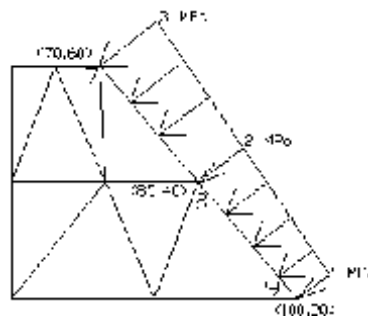

Fig. 5
5. A Two dimensional plate is shown in the Fig. 5. Determine the equivalent point loads at nodes 7,8,9 for the linearly distributed pressure load acting on the edge 7-8-9